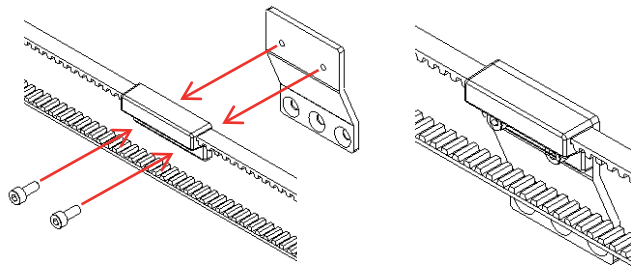

Figure 34: Bolt the top bracket onto the top loop of the belt.
3. Bolt the belt clamp to the top loop of the belt (Figure 34).